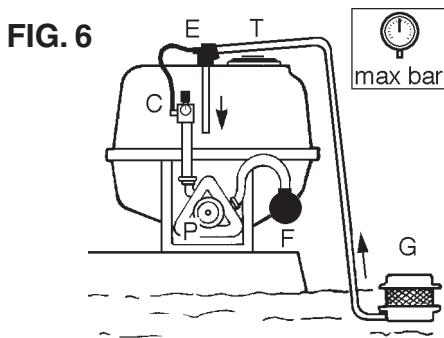

FIG. 6
c) FILLING WITH THE ANTIPOLLUTION EJECTOR (Fig. 6)